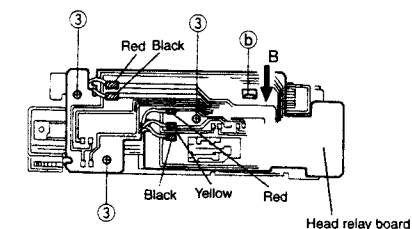

Fig. 11
1. Desolder the lead wires of the loading motor at the 2 positions shown (red, black). (Fig. 11)
2. Desolder the lead wires of the head at the 3 positions shown (red, yellow, black). (Fig. 11)
3. Remove the three screws ③ securing the head relay PCB. (Fig. 11)
4. Shift the interlocking section ⑤ securing the head relay PCB in the direction shown by the arrow B to remove the PCB. (Fig. 11)